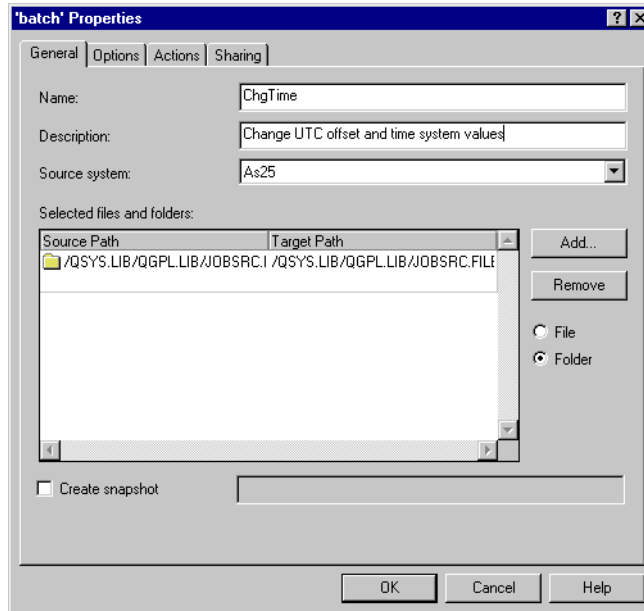

Figure 39. Package definition to submit a job stream
5. Select the source system. In this scenario, we use AS25. Click the **Add** button to select the source file member for the batch job stream. When you finish selecting the file member, a window appears as shown in Figure 39.